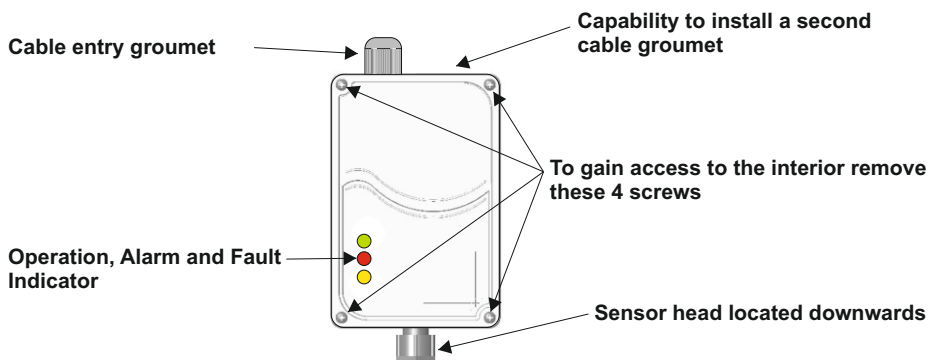
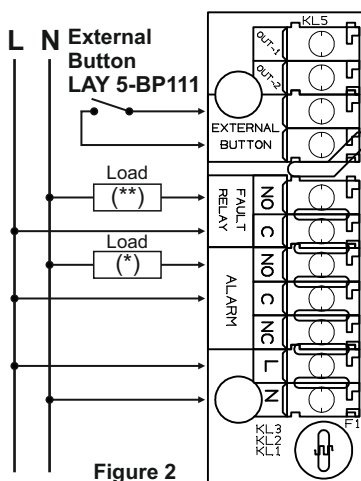

Figure 1. Interior access, cable entry and indicators
Figure 2
To mount the device, unfasten the 4 retaining screws.(figure 1). Next, using the diagram on figure 2 to realize the external connections of the system. The device operates with a mains voltage of 240V AC (with a voltage range of 197 to 265V AC).
To calibrate the device, remove the 4 retaining screws (figure 1) in order to gain access to the interior.
2.Remove the gland with the filter located on the sensor head (figure 1).